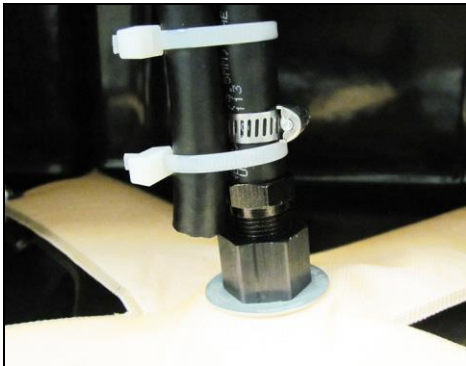

Figure 8
6. Tie wrap the return fuel hose against the fuel pick up hose. Position the end of the hose approximately 1" above the HydraMat (Figures 8 & 9).